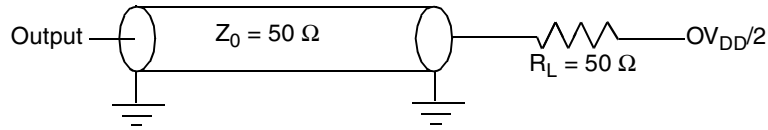

Figure 31. AC Test Load for the JTAG Interface
- All outputs are measured from the midpoint voltage of the falling/rising edge of t_{TCLK} to the midpoint of the signal in question. The output timings are measured at the pins. All output timings assume a purely resistive 50-Ω load (see Figure 31). Time-of-flight delays must be added for trace lengths, vias, and connectors in the system.
- The symbols used for timing specifications herein follow the pattern of $t_{(first\ two\ letters\ of\ functional\ block)(signal)(state)}$ (reference)(state) for inputs and $t_{(first\ two\ letters\ of\ functional\ block)(reference)(state)(signal)(state)}$ for outputs. For example, t_{JTDVKH} symbolizes JTAG device timing (JT) with respect to the time data input signals (D) reaching the valid state (V) relative to the t_{JTG} clock reference (K) going to the high (H) state or setup time. Also, t_{JTDXKH} symbolizes JTAG timing (JT) with respect to the time data input signals (D) went invalid (X) relative to the t_{JTG} clock reference (K) going to the high (H) state. Note that, in general, the clock reference symbol representation is based on three letters representing the clock of a particular functional. For rise and fall times, the latter convention is used with the appropriate letter: R (rise) or F (fall).
Figure 31 provides the AC test load for TDO and the boundary-scan outputs of the MPC8541E.